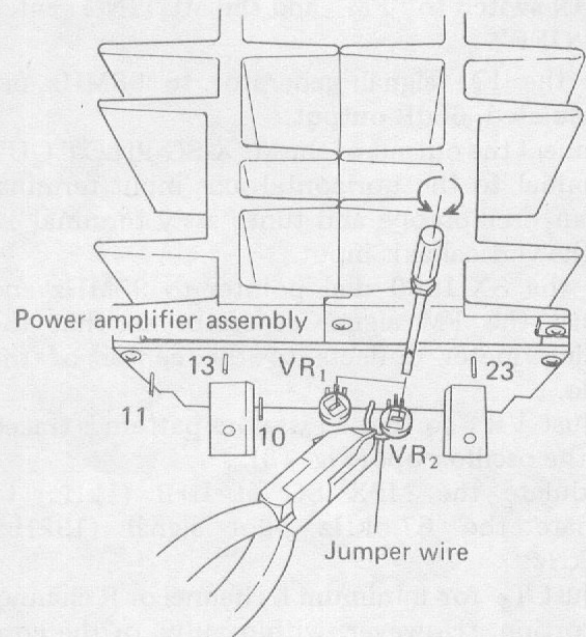

Fig. 14 Power amplifier adjustment
3. When 0V cannot be obtained by performing the adjustment of item 2 above, cut the jumper wire shown in Fig. 14 and adjust to 0V with VR2.
4. The R-ch also uses the power amplifier ass'y (AWH-071). Check and adjust this channel in accordance with items 1 - 3 above.